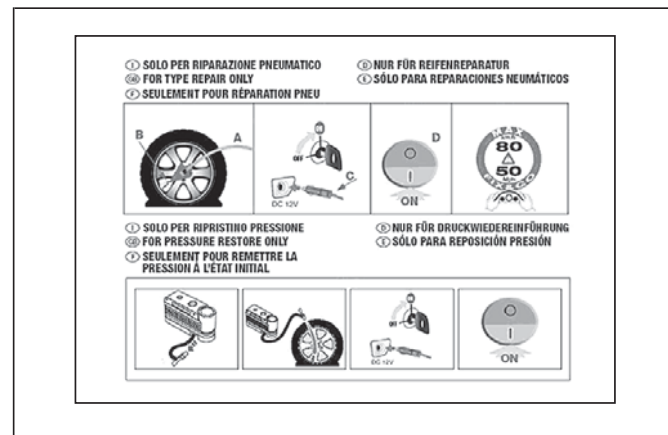

fig. 119
- ☐ instruction brochure (see fig. 119), to be used for prompt and correct use of the quick tyre repair kit and then to be handed to the personnel charged with handling the treated tyre;